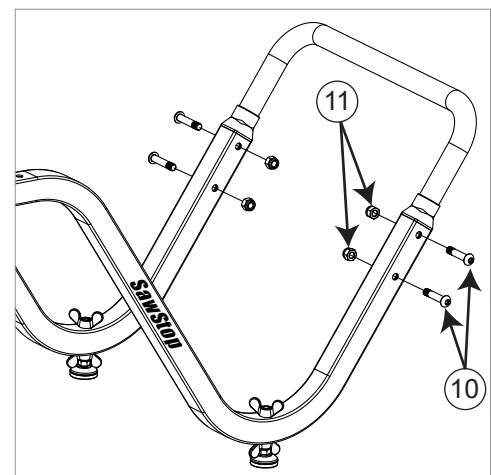

Fig. 9
- Use a 17 mm wrench and the included 6 mm hex key to mount the handle in place with four M10 x 50 button head socket bolts and four M10 lock nuts (see Fig. 9).